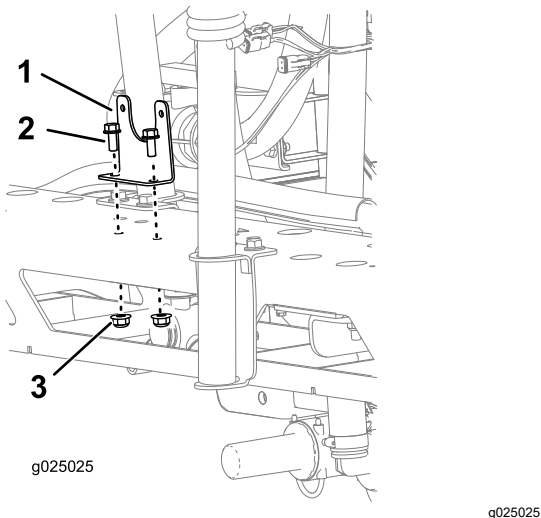

Figure 1
2. Secure the bracket to the frame with the 2 bolts (5/16 x 3/4 inch) and 2 locknuts (5/16 inch) as shown in Figure 1.